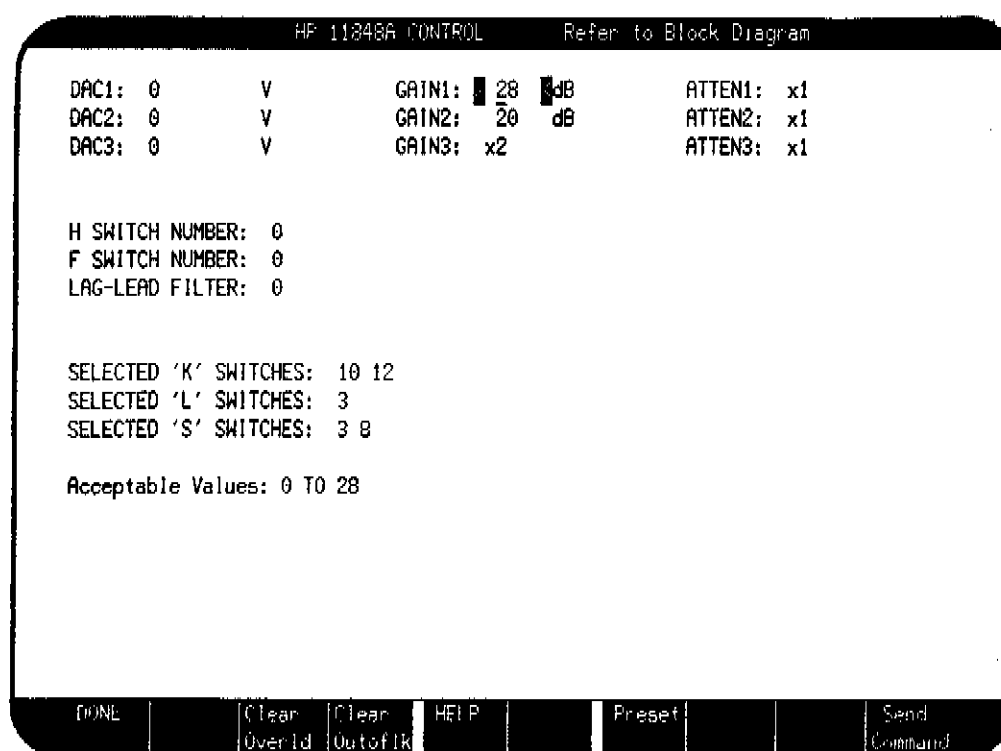

Figure 3-6. HP 11848A Control Display for FM Test
- d. Use the cursor control keys to move the cursor to the "SELECTED 'K' SWITCHES:" line then key in 10 and 12. (Refer to figure 3-6.)
- f. Press the **Send Command** softkey to initiate the commands. The display should appear as in figure 3-6 except for the cursor position, the values following "GAIN1:" and "GAIN2:" (which will be entered later), and the bottom line.
- c. Press the **Send Command** softkey to initiate the commands. (The display should now appear as in figure 3-6.)